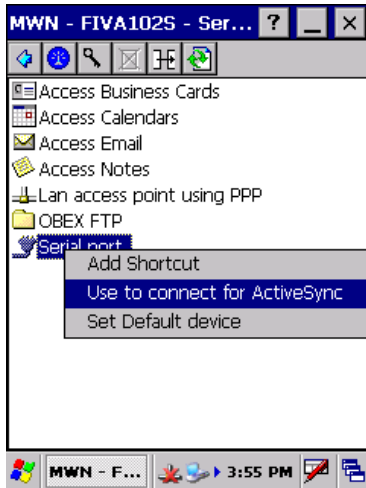
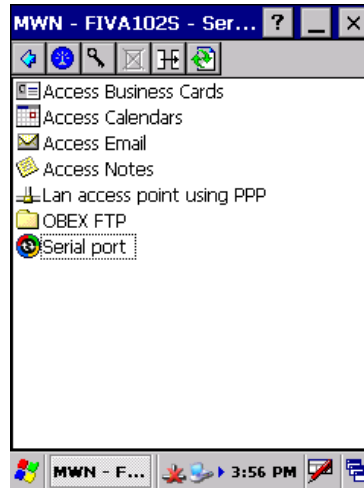

Figure 5.23
Figure 5.24
2. Click and hold the **Serial Port Profile** icon to display the context menu (see Figure 5.23), and highlight **Use to connect for ActiveSync** in the menu. The icon changes to the  icon (ActiveSync). See Figure 5.24.